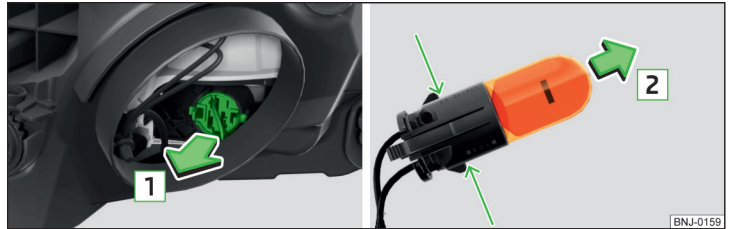

Fig. 191 Changing the bulb for the turn signal light
- Remove the bulb holder with the bulb by jiggling it out in the direction of the arrow **1** » Fig. 191.